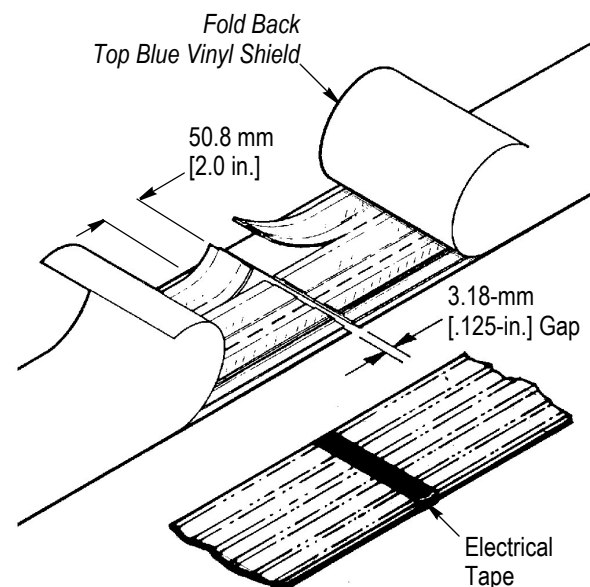

Figure 2
1. Align one cable end with the other cable end. Trim both cables evenly across the ends allowing a 3.18-mm [.125-in.] gap between them. Fold back the top blue vinyl shield. See Figure 2.